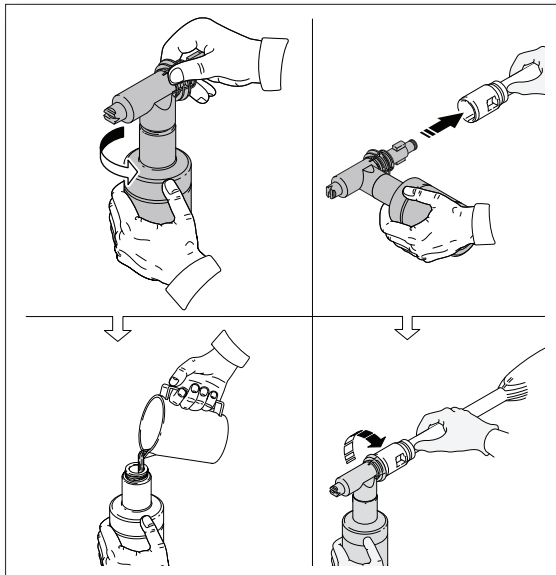

Fig. 12
- The detergent bottle connects directly onto the gun (**Fig. 12**). When using the detergent bottle fill it with a properly formulated detergent or cleaner with a water ratio according to instructions on the container. The detergent bottles comes with a straw which is attached onto the screw-on top. If you do not see the straw, look inside the bottle and attach it to the screw-on top.